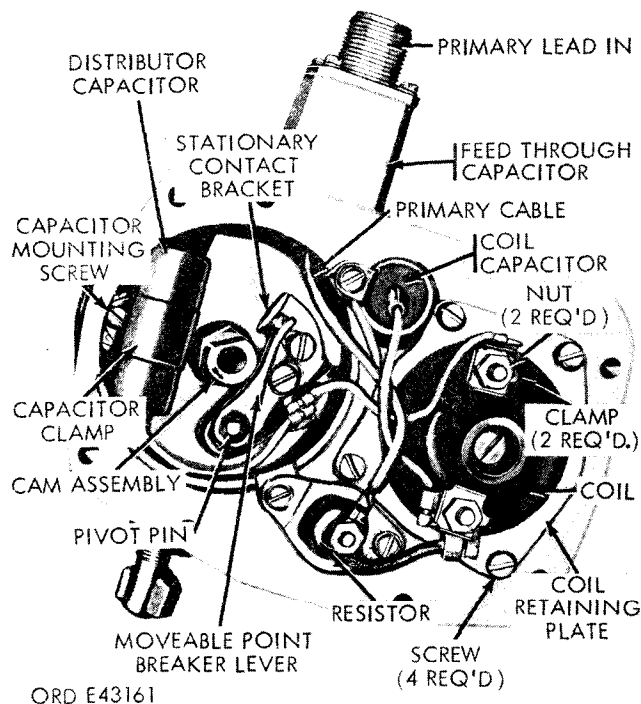

Figure 2-149. Distributor with cover removed.
(2) *Removal (fig. 2-149).*
(3) *Installation (fig. 2-149).*
*e. Ignition Coil (fig. 2-149).*
*f. Resistor (fig. 2-149).*
*g. Coil Capacitor (fig. 2-149).*